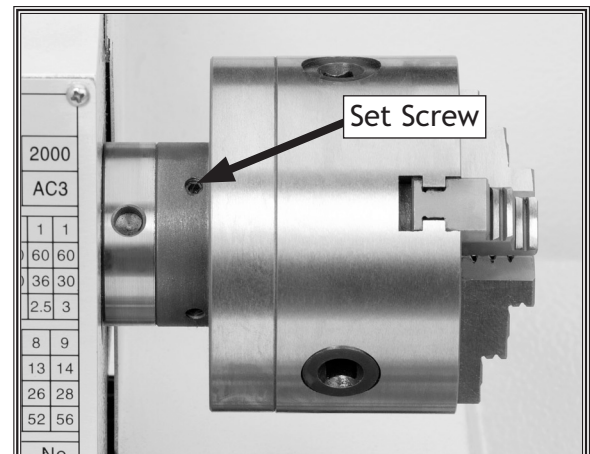

Figure 11. Chuck retaining setscrew.
3. Use a 2mm hex wrench and loosen the two chuck retaining set screws shown in **Figure 11**.